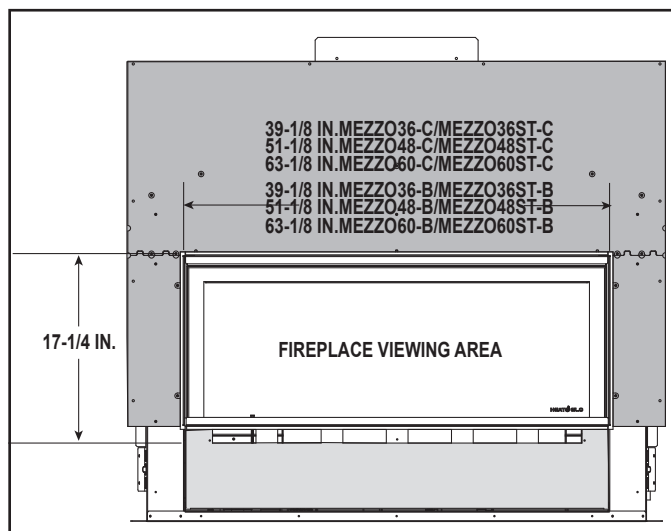

Figure 3. Minimum Finished Opening Dimensions
1. Verify that the finishing material has been installed correctly before installing the decorative front. See Figure 3 for minimum finished opening dimensions and refer to Section 10 of appliance installation manual for further information.